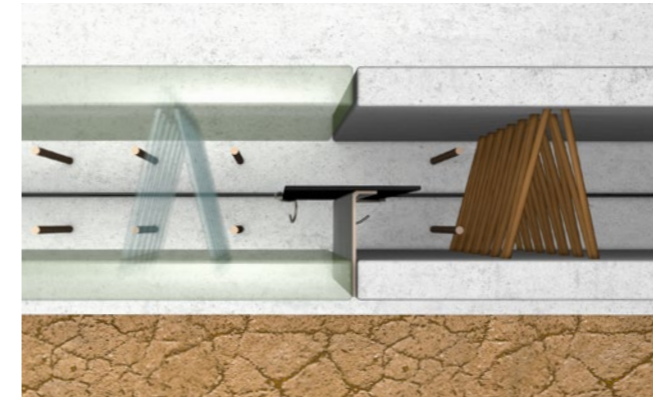

Fig. 1: FTS for straight joints
- Variants for straight slab joints (Fig. 1)